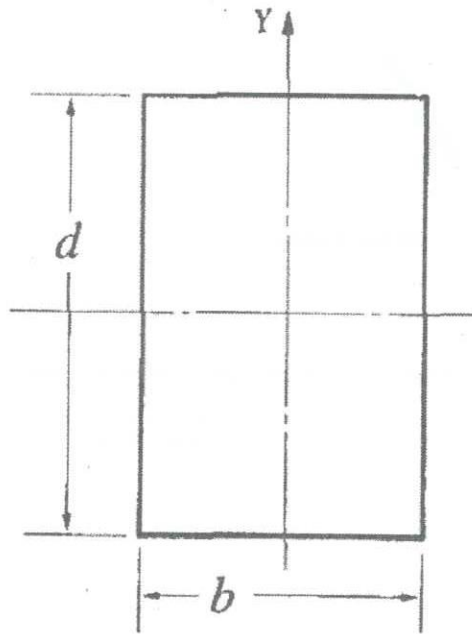

Figure Q3 (c)
c) Consider a metal beam with a rectangular cross section as shown in Figure Q3 (c). This metal beam is subjected to a pure bending moment such as the plastic deformation is penetrated into the beam. Plastic deformation has penetrated into the beam a distance of $d/4$ from one side.